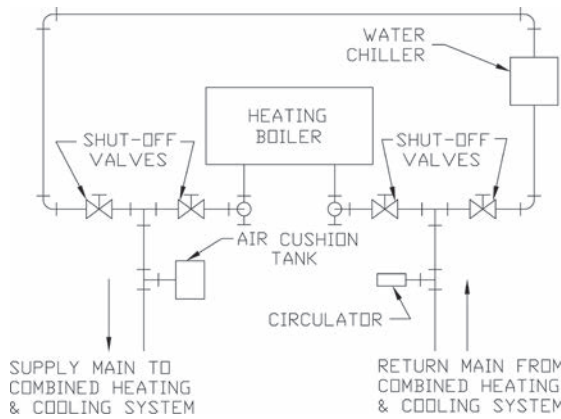

Figure 5: Recommended Piping for Combination Heating & Cooling (Refrigeration) Systems
- d. If this boiler is used in connection with refrigeration systems, the boiler must be installed so that the chilled medium is piped in parallel with the heating boiler using appropriate valves to prevent the chilled medium from entering the boiler, see Figure 5. Also, consult Residential Hydronic Heating Installation and Design I=B=R Guide.